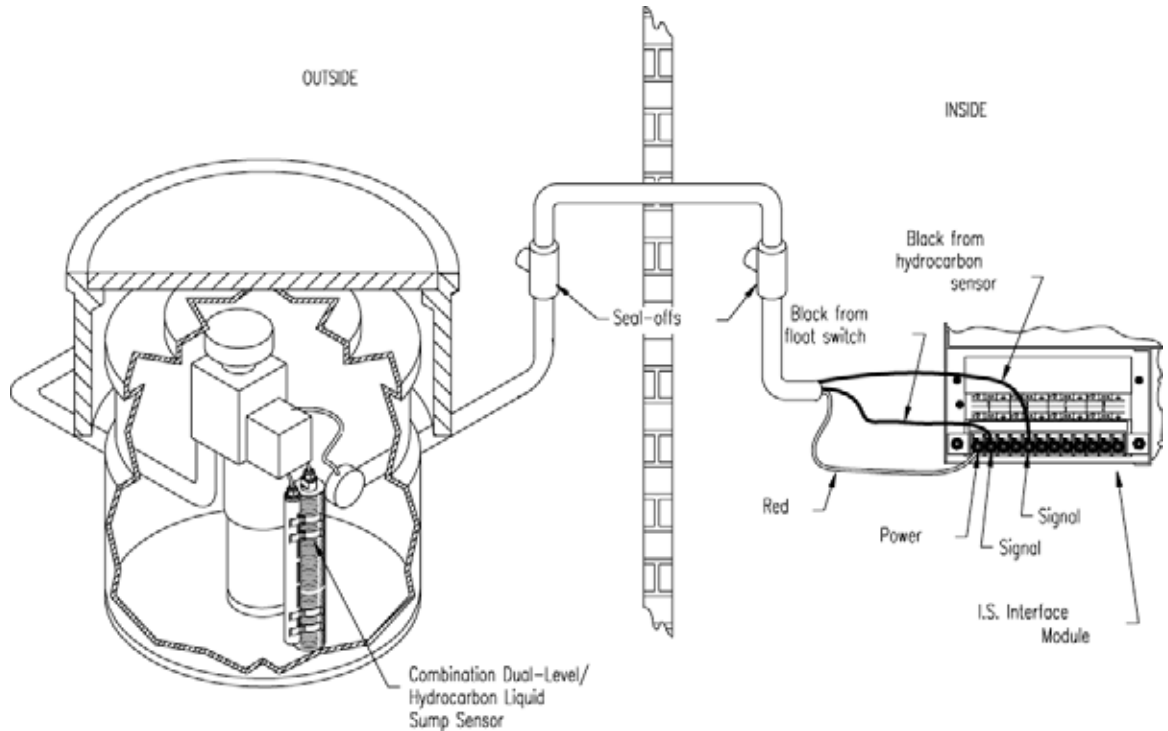

Figure 26: Combo Single-Level & Hydrocarbon Liquid Sensor Installation
- Review Figure 26 on page 78.